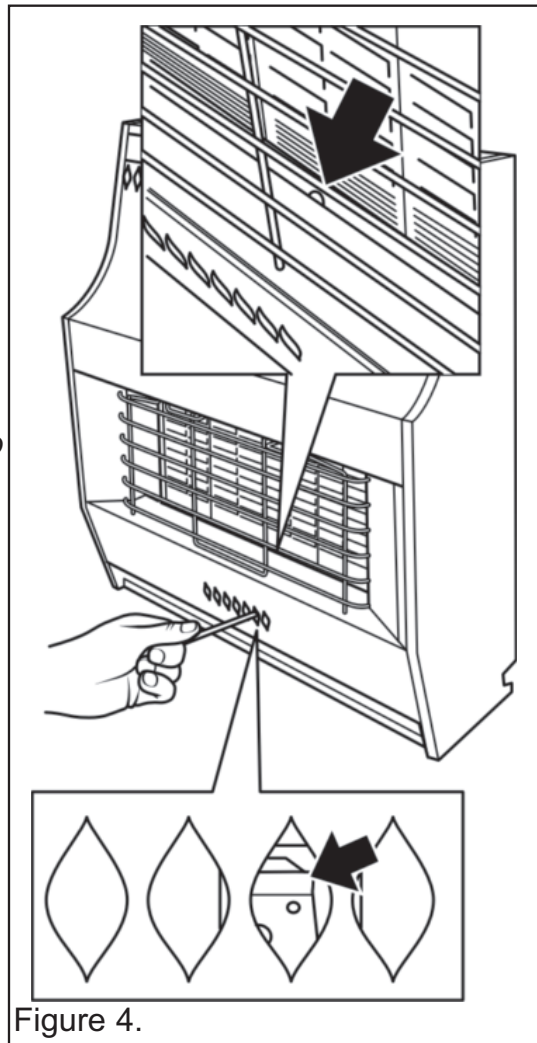

Figure 4.
– Depress the control knob slightly and turn anticlockwise towards the 1/IGN position. Do not apply too much pressure as this will cause resistance to be felt. Depress the control knob. Sparks should be generated at the pilot. The sparks should ignite the pilot. If the pilot does not light, turn the control knob back to the 'OFF' position and try again. The pilot flame can be seen through the opening immediately below the right hand centre radiant (See upper section of figure 4).
While keeping the knob depressed, light the pilot by inserting a long match or taper into the opening as in figure 4.